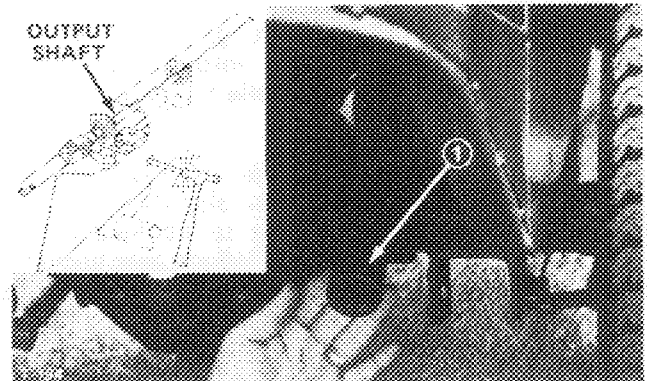

Figure 18
2. Lower cutting unit so castor wheels are on a level surface. Be sure all height-of-cut pins are in the same hole locations. Remove check plug (Fig. 18) from side of gear box and check level of lubricant. If level of lubricant is low, remove fill plug on top of gear box and add SAE 80-90 wt. gear lube until level is up to bottom of check hole.
2. Remove five wheel nuts and slide left wheel off axle to expose access hole inside of chassis (Fig. 18).
3. Push PTO lever forward until pulley and brake disengage. Align hole in PTO shaft with hole in chassis (Fig. 18).
4. Through access hole in chassis, drive roll pin out of PTO shaft and output shaft with pin punch and ball peen hammer (Fig. 18 inset).